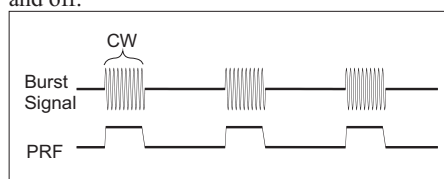

Figure 4-2 Burst signal.
A burst signal as in Figure 4-2 has a carrier wave (CW) frequency and a modulation frequency, also called the pulse repetition frequency (PRF), that switches the CW signal on and off.